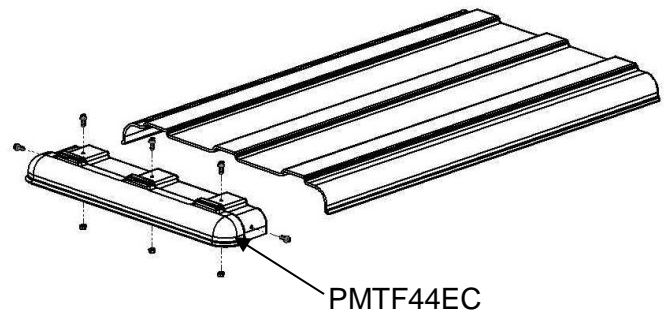

Figure 4
- B. To install the end cap, cut the end of the center section off and clamp PMTF44EC to the unfinished end of the fender (Figure 4)